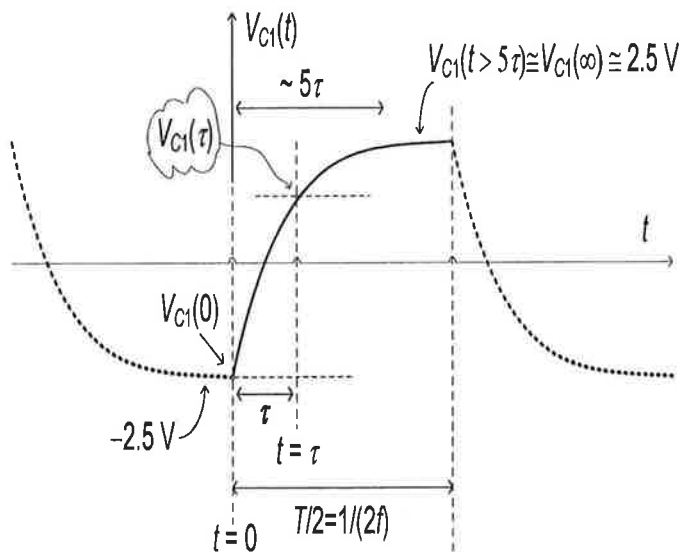

Figure 2. The capacitor voltage  $V_{C1}(t)$  versus time  $t$ .
- Measure the approximate value of the time constant  $\tau$  of the circuit from the  $V_{C1}(t)$  waveform (call this time constant  $\tau_{\text{measured}}$  or  $\tau_m$ ). Note that over each  $T/2$  time interval during which the source voltage  $V_S(t)$  is either  $-2.5\text{ V}$  or  $2.5\text{ V}$ , assuming  $t=0$  to be the starting time of each one of these  $T/2$  intervals, the capacitor voltage  $V_{C1}(t)$  varies with respect to time as  $V_{C1}(t) = V_{C1}(0)e^{-t/\tau_m} + V_{C1}(\infty)(1 - e^{-t/\tau_m})$  where  $V_{C1}(0)$  is its initial value and  $V_{C1}(\infty)$  is its final value. So, for example, the capacitor voltage at  $t = \tau_m$  is approximately given by  $V_{C1}(t = \tau_m) \cong 0.368V_{C1}(0) + 0.632V_{C1}(\infty)$ . Refer to the middle portion of the  $V_{C1}(t)$  sketch shown in Fig. 2 for which  $V_{C1}(0) = -2.5\text{ V}$  and  $V_{C1}(\infty) = 2.5\text{ V}$ . Substituting these values yield  $V_{C1}(\tau_m) \approx 660\text{ mV}$ . Using this portion of the  $V_{C1}(t)$  waveform seen on the oscilloscope display, measure and record the approximate value of the time constant  $\tau_m$  using the  $V_{C1}(\tau_m)$  voltage point on the  $V_{C1}(t)$  waveform.